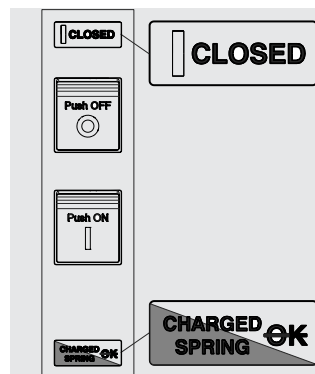

Figure 84
4. Circuit-breaker closed with springs charged and not ready to close (see Figure 84). This state occurs when after closing (see step 4 - Manual operations for opening and closing the circuit-breaker) the springs are recharged manually or automatically by the gearmotor (if provided).